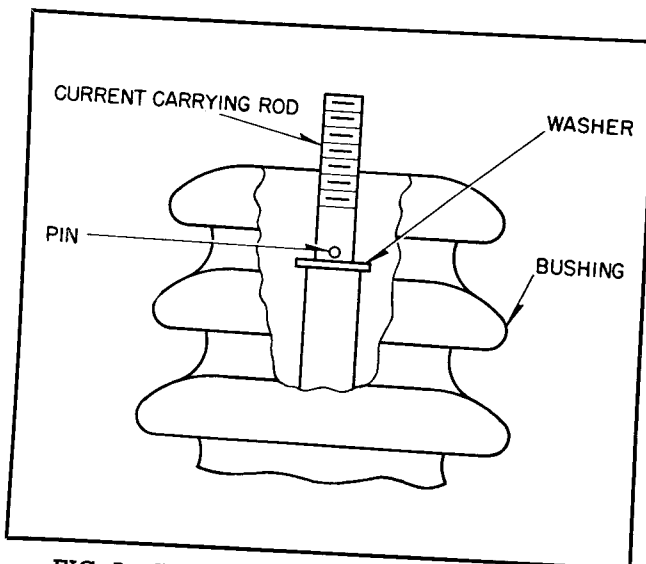

FIG. 5. Correct Positioning of Pin and Washer in Bushing Assembly
4. With the pin and washer on the stud assembly (see Fig. 5) place the assembly in the new bushing and, with a new gasket in position under the clamp-type terminal, replace the terminal and tighten it. This gasket should be cemented to the bushing with any good gasket cement. A bit of vaseline on the top of the gasket will prevent it sticking to the terminal while the terminal is tightened.